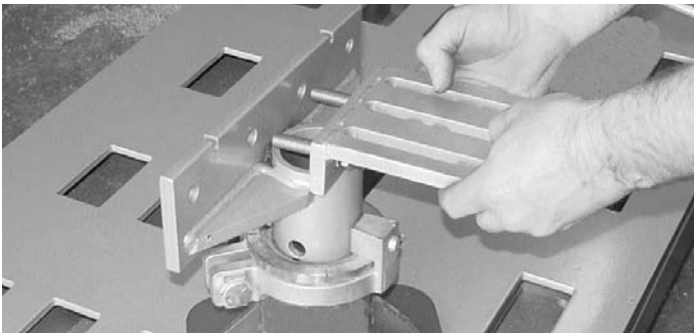

Figure 2
- 2) Position large angle support against back of anchoring stand and insert anchoring bolts through holes in support and through middle holes in anchoring stand. (See Figure 2.)